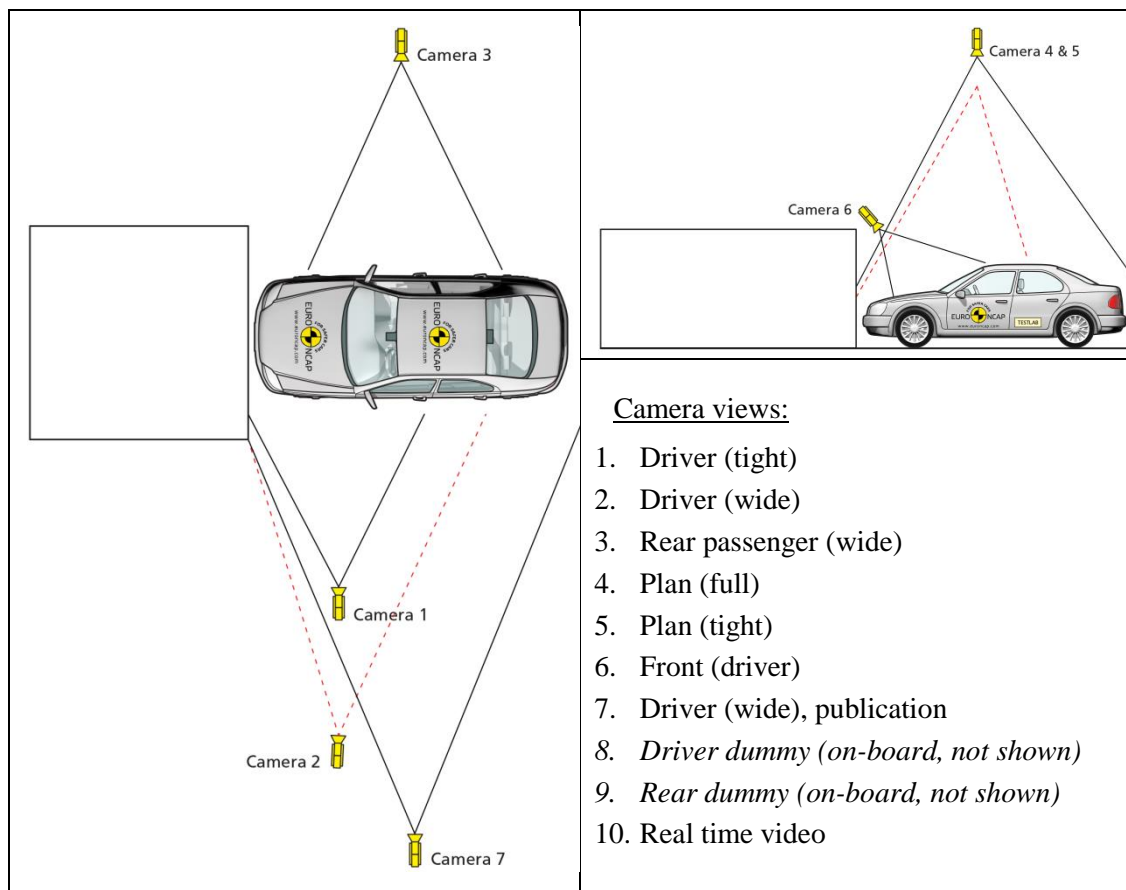

Figure 4: Locations for Cameras 1 to 7 (Frontal Full Width Rigid Barrier).
A total of 7 cameras views are required as indicated in Figure 4 below. In addition, two (2) onboard camera views are specified, for driver and rear passenger respectively and one realtime camera located on the block.